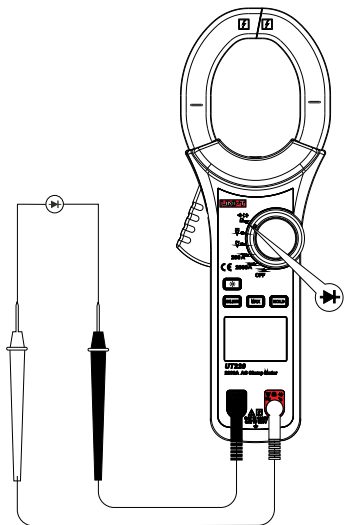

Figure 6
4. Diode measurement ➔ (See Figure 6)